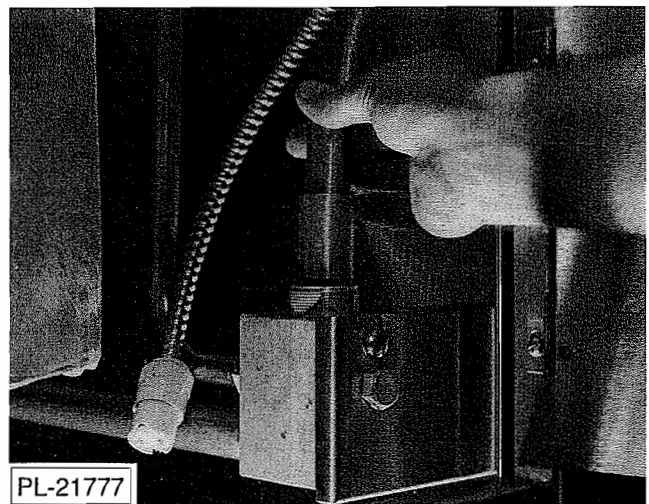

Fig. 22
3. Remove the kettle pressure regulator assembly (Fig. 22). Wash the complete assembly with a Scotchbrite pad and warm soapy water. Rinse thoroughly and wipe dry.